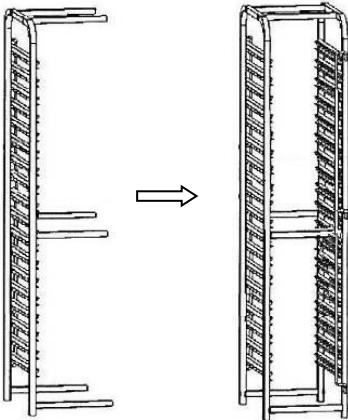

Fig. 1
1. First, install 6 cross members (upper, lower and middle) to one side part of the clearing trolley (**fig. 1**).